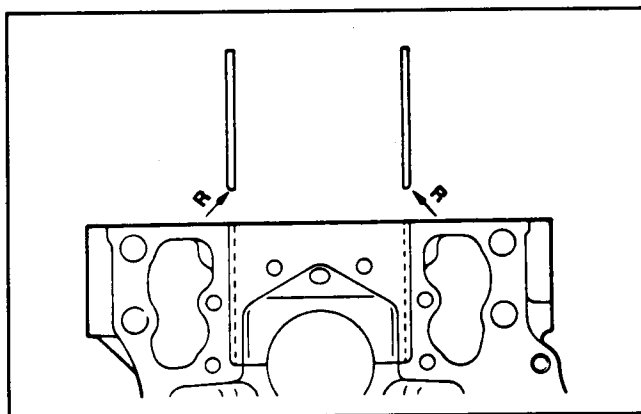

Figure 96
12. Apply sealant (Permatex No. 2 or equivalent) to the outside surface of the side seals. Install the side seals with the radius towards the outside of the engine (Fig. 96).